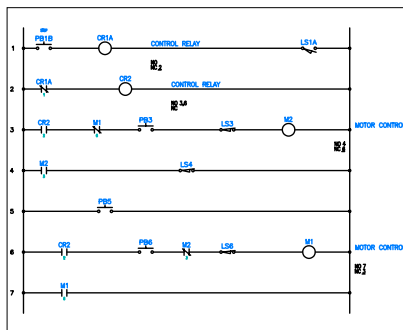

Figure 6-49 The ladder after hiding attributes
3. Press ENTER to exit the command. Figure 6-49 shows the ladder and component with hidden attributes.